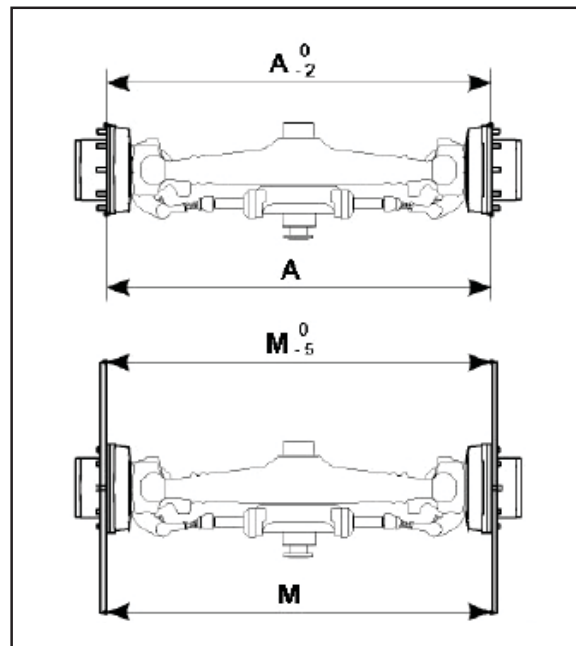

Fig.119
The nominal toe-in value (A) is referred to the external diameter of the wheel hubs flange, therefore the measured value (M) at the bars ends must be related to the ratio between length of the bar and flange diameter (Fig. 119).